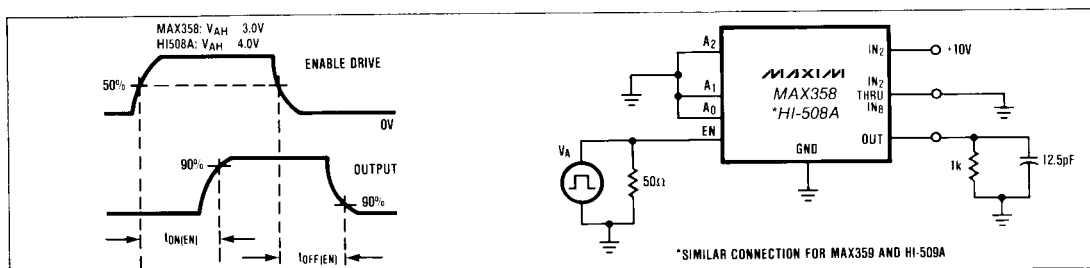

Figure 3. Enable Delay ( $t_{ON(EN)}$ ,  $t_{OFF(EN)}$ )
| Enable Delay (ON)                             | $t_{ON(EN)}$       | (Figure 3)   | +25°CFull                 | 300             | 5001000       |     | 300                             | 1000              |     | ns            |
| Enable Delay (OFF)                            | $t_{OFF(EN)}$      | (Figure 3)   | +25°CFull                 | 300             | 5001000       |     | 300                             | 1000              |     | ns            |